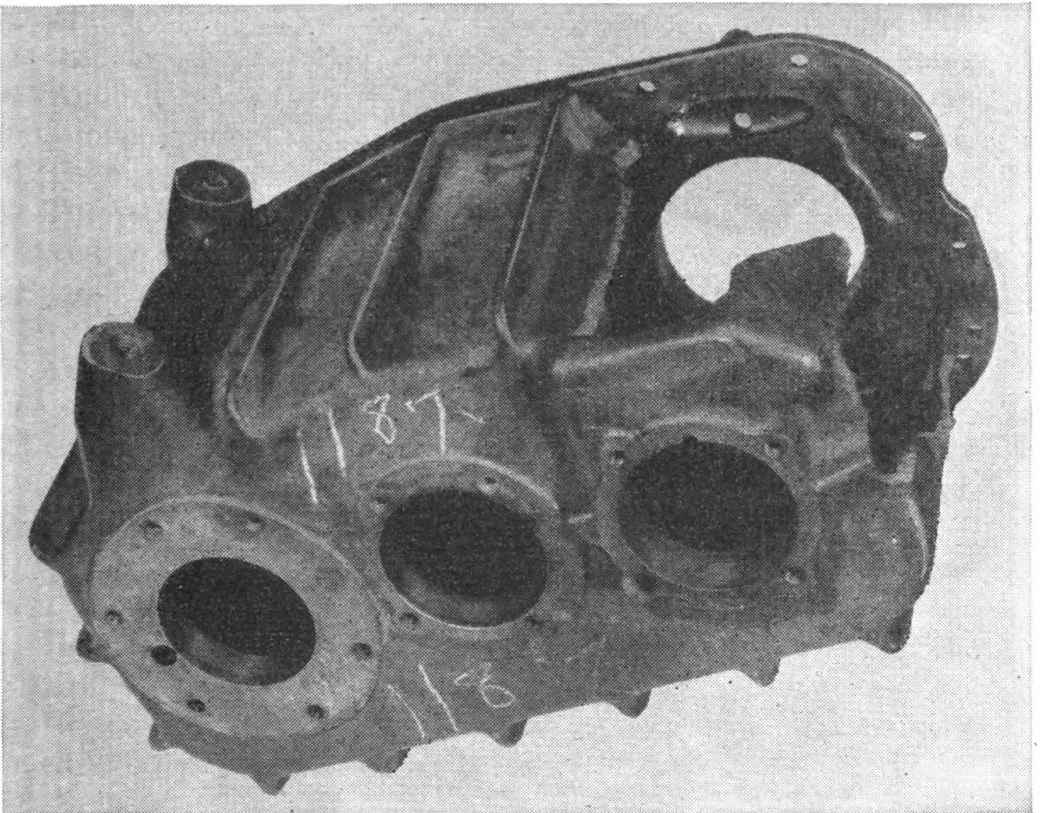

FIGURE 6.—Broken transfer case. (This has been caused by loose mounting bolts. A simple preventive maintenance check would have avoided this serious damage.)
*b. Failure to tighten connections.*—Point out that another major cause of motor vehicle break-down is due to failure to tighten connections of various sorts with the result that parts gradually work loose from vibration and are lost or broken. Explain that such connections are usually nuts, bolts, and screws. (See fig. 6.)